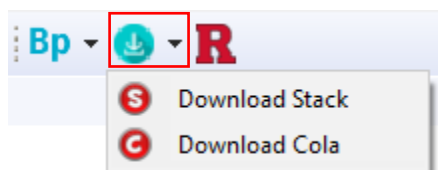

Figure 17: Download Stack/Cola Application
7. Now download Stack and COLA application to the target DUT (Figure 17).